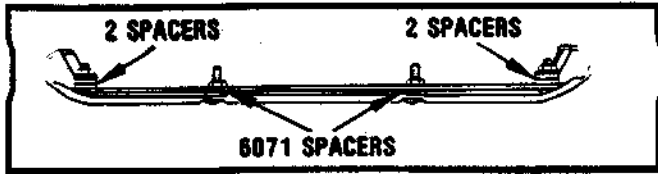

FIGURE 21
2. To obtain smoothest cutting in lowest cutting height settings, the runners may be adjusted as shown in Figure 21.